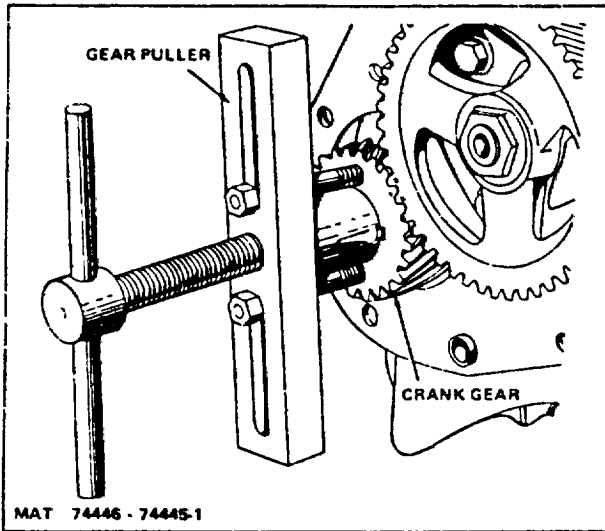

Figure 23. Removing Crank Gear
24. Remove retaining ring and pump coupling. Pull timing gear from crankshaft (Figure 23).